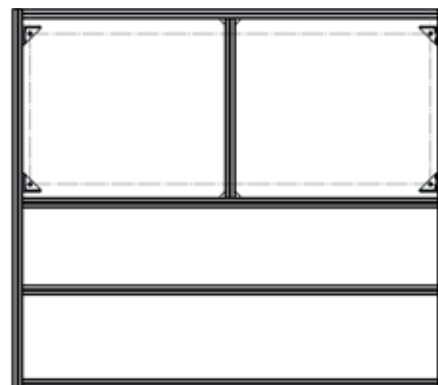

Fig. 3.2-13
Step ⑬ Lift the universal wall **A2** (**Fig. 3.2-13**) at the top end (near the protective cover) and place it straightened with the bottom part against the wall. Now attach the universal wall frame to the wall while firmly screwing on the brackets **A2f** with the 4 hexagon head cap wood screws in the prepared dowels. When using a torque spanner, adjust it to 25 Nm.